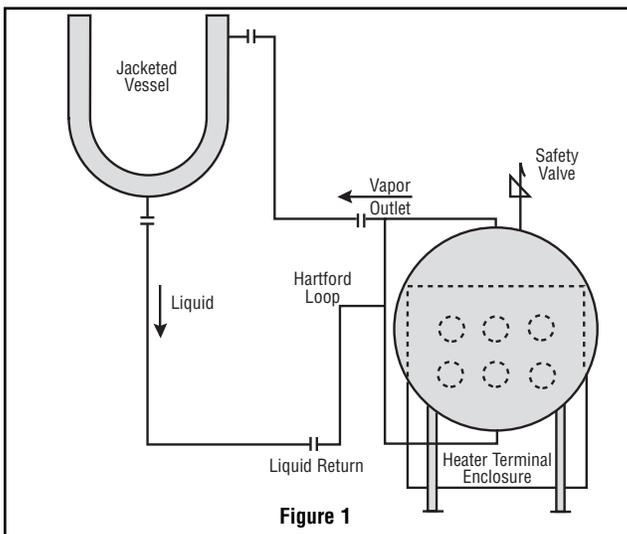

Figure 1
**A. Gravity return type:** The simplest and most easily operated type of vaporizer is one in which the condensate from the heating equipment is returned to the vaporizer by gravity, thus providing a system without moving parts. Such a system is possible if there is sufficient difference in elevation between the process and the vaporizer so the static liquid head will counter-balance all frictional losses in the vaporizer, vapor piping process and condensate return piping without flooding the heated equipment. See Figure 1 for a typical schematic piping diagram.
A Hartford Loop consists of a line without valves outside of the vaporizer connecting the vapor outlet and the condensate inlet. The condensate return line is connected to the vapor-condensate line or loop at the same elevation as the lowest permissible level in the vaporizer. Thus, a vacuum in the heated equipment can then pull liquid from the vaporizer (or a closed valve in the vapor line can force liquid from the vaporizer) only until the level in the vaporizer falls to the level of this connection. Also, the resultant liquid hammering will give warning that the liquid level in the vaporizer is too low. (See Figure 1 below.)